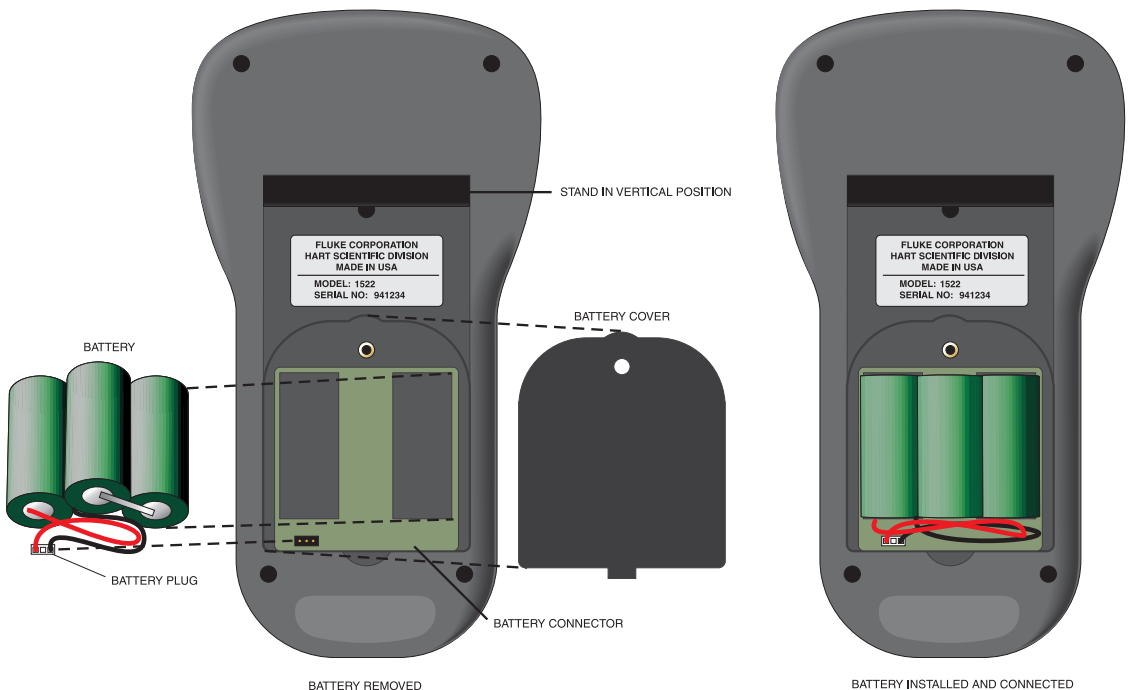

Figure 5 Battery Installation
See Figure 5 on page 25.
2. With the 1522 facing down, lift the stand to expose the battery cover (see Figure 5). Remove the battery cover screw with a small Philip's screwdriver. Remove the battery cover to access the battery pack.
4. Attach the polarized plug of the new battery pack onto the connector in the same direction as before (see Figure 5 on page 25). Place the battery pack in the battery compartment.